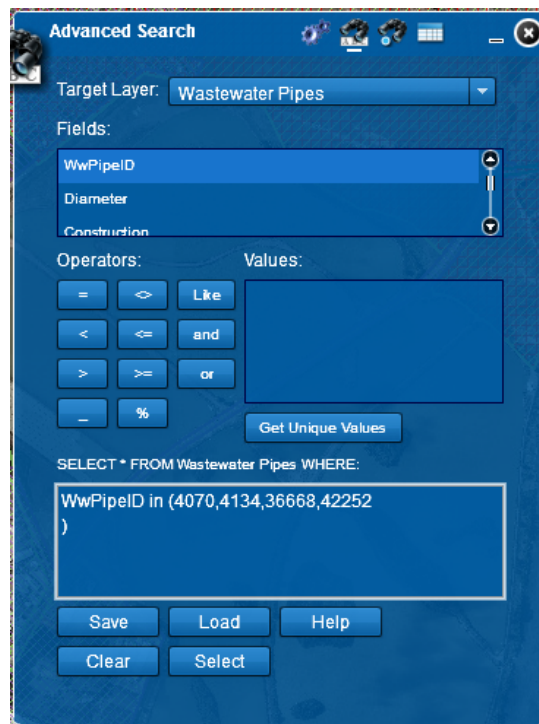

Figure 14 - GIS Advanced Search
- Enter the pipe IDs into the advanced GIS search in the format shown in Figure 14. Ensure the correct target layer is selected (SW or WW).